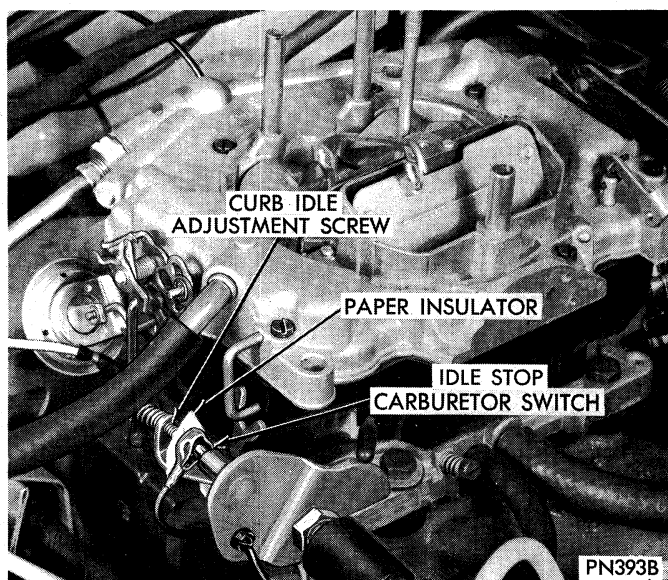
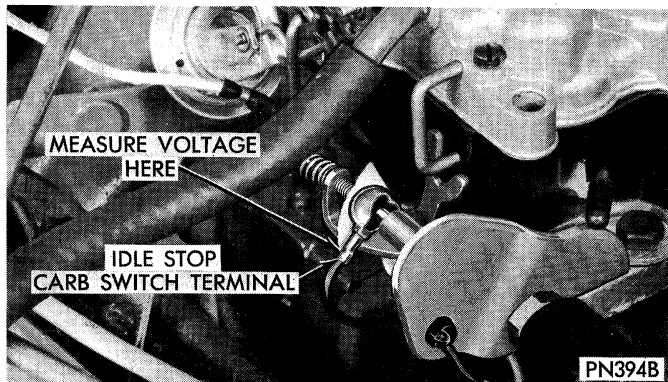

Fig. 7—Preparing for Power Check
Fig. 8—Power Check
(2) Disconnect wiring harness connector from "Coolant Switch."
(3) Place a thin insulator (piece of paper) (Fig. 7) between curb idle adjusting screw and carb switch or make sure curb idle adjusting screw is not touching carb switch.
(4) Connect negative lead of a voltmeter to a good engine ground.
(5) Turn ignition switch to "Run" position and measure voltage at carb switch terminal (Fig. 8). If voltage is greater than 5 volts but less than 10 volts proceed to Step 7. If voltage is greater than 10 volts check to insure continuity between terminal 10 of dual connector and ground (Fig. 11).